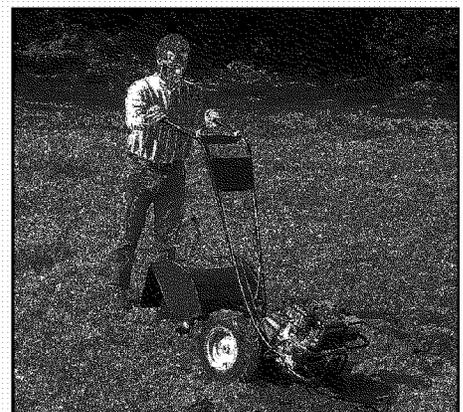

Figure 4-5
- (c) With the tiller balanced, push sideways on the handlebar to move the tiller in the direction of the turn (Figure 4-5). After completing the turn, slowly lower the tines into the soil and increase the engine speed.